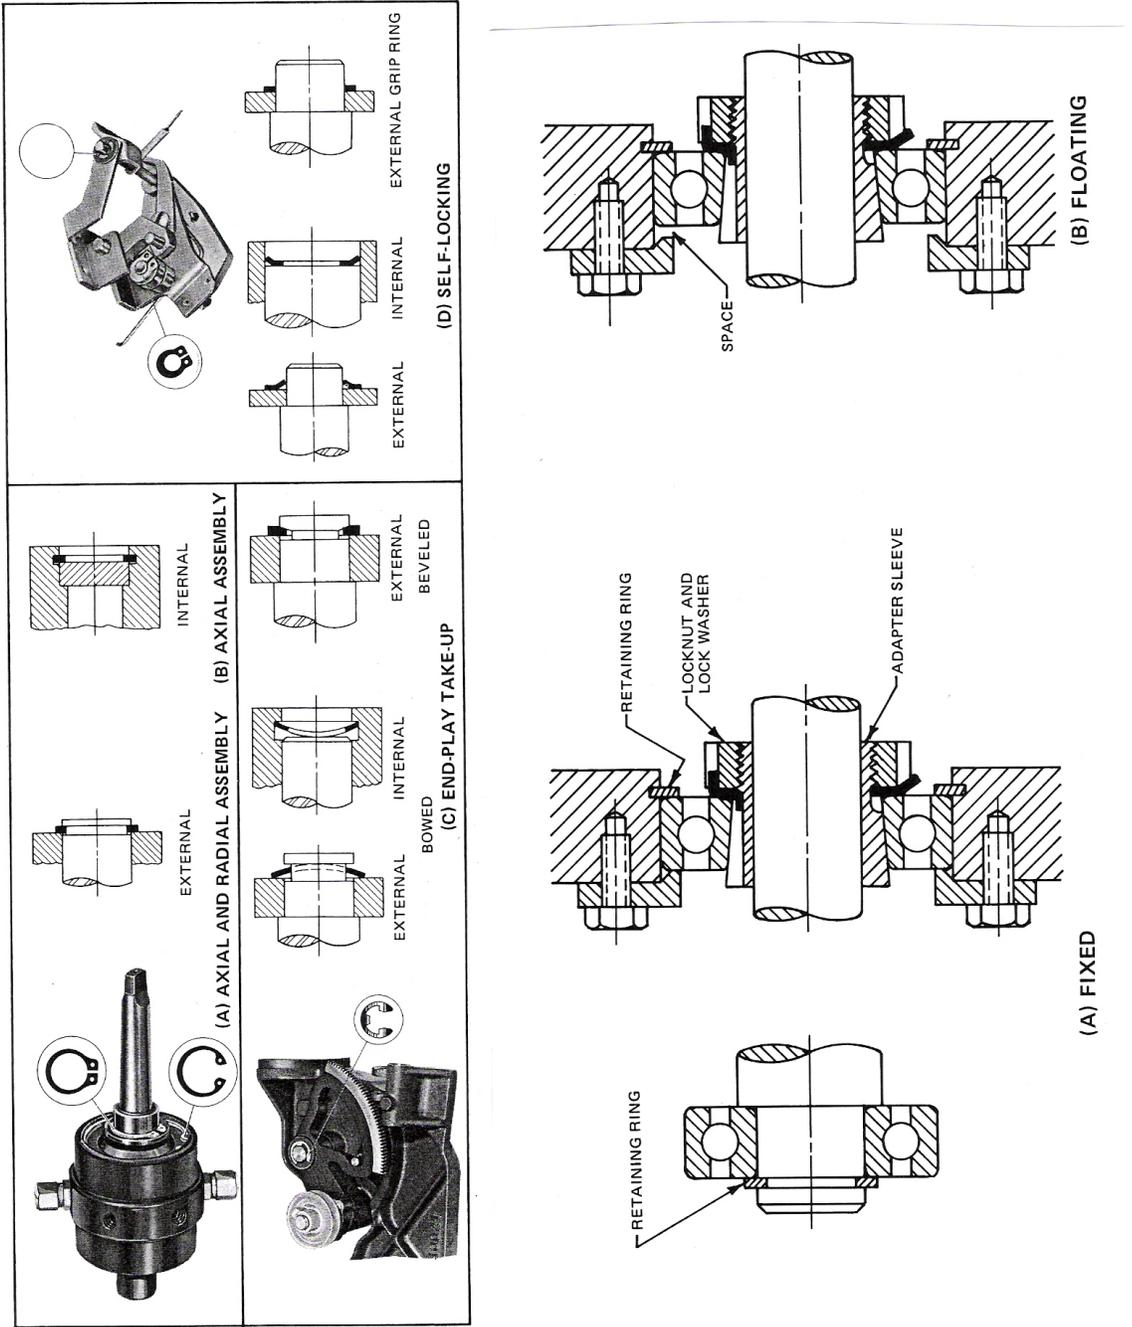

Figure 2: Some Examples of Retaining Ring Placement
- On 06-04-03 show evidence that you’ve done a solid model of at least one detail. A not very nice example is my Fig. 2 on p.3 of the document **Design Graphics Solid Modelling Exercise**. I expect more of your efforts after your training with AutoCAD and Solid Works. Prepare a freehand layout of the “poster” you will present on 06-04-10 Submit these in slot-box.